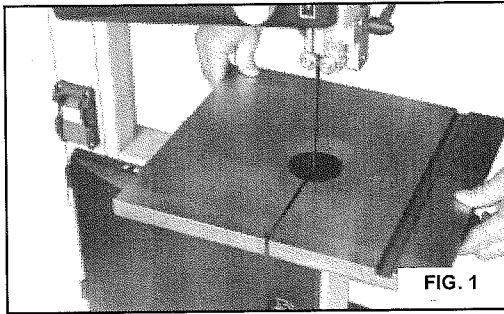

FIG. 1
- Assemble the upper table trunnion to the lower table trunnion with Carriage Bolt, Glide Piece, Washer and Wing Nut. Place the table on to the upper table trunnion, taking care when passing the saw blade through the slot of the table (See Fig. 1). Locate four hex bolts and four lock washers from the bag of loose parts. Mount the table to the upper table trunnion and install a bolt with washer in each hole, then tighten with adjustable wrench.